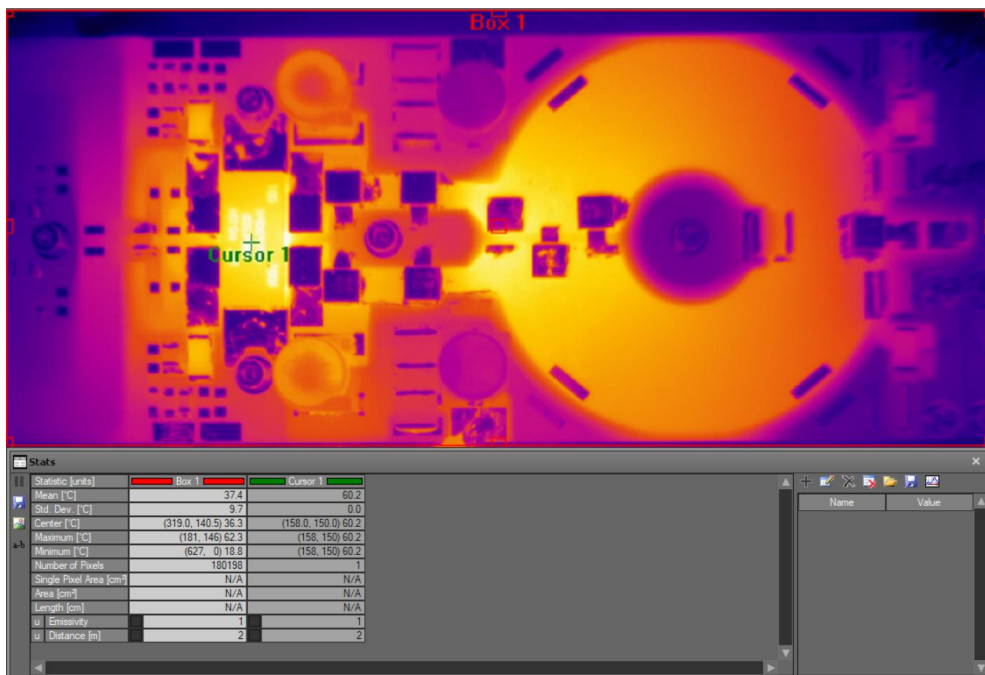

Figure 11 IR image of the demo operating at P3dB, V_{DD} = 55V, water cooling, T_{water} = 25°C
- Figure 11 IR image of the demo operating at P3dB, VDD = 55V, water cooling, Twater = 25°C 10